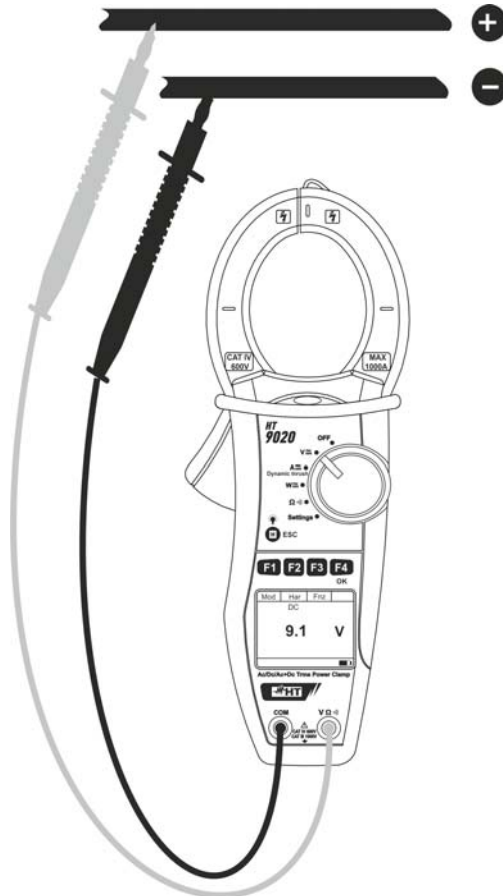

Fig. 5: DC Voltage measurement
4. Connect red cable to input lead **V $\Omega$** ) and black cable to input lead **COM** then position the leads at the desired points of the circuit under test (see Fig. 5)